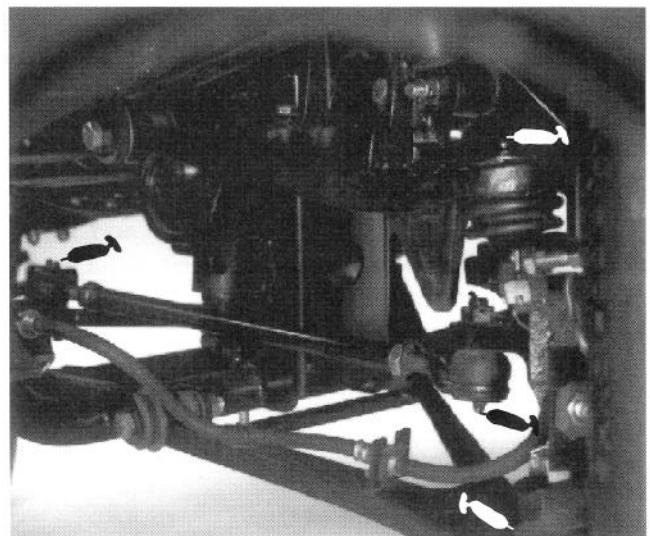

Figure 21
The grease fitting locations and quantities are: Tie rod ends (4) (Fig. 21), Front ball joints (4) (Fig. 21), Rear drive shafts (18) (Fig. 23), Steering shaft (1) (Fig. 24), Front pivot bushings (2) (Fig. 22) and Pedal pivots (4) (Fig. 25).